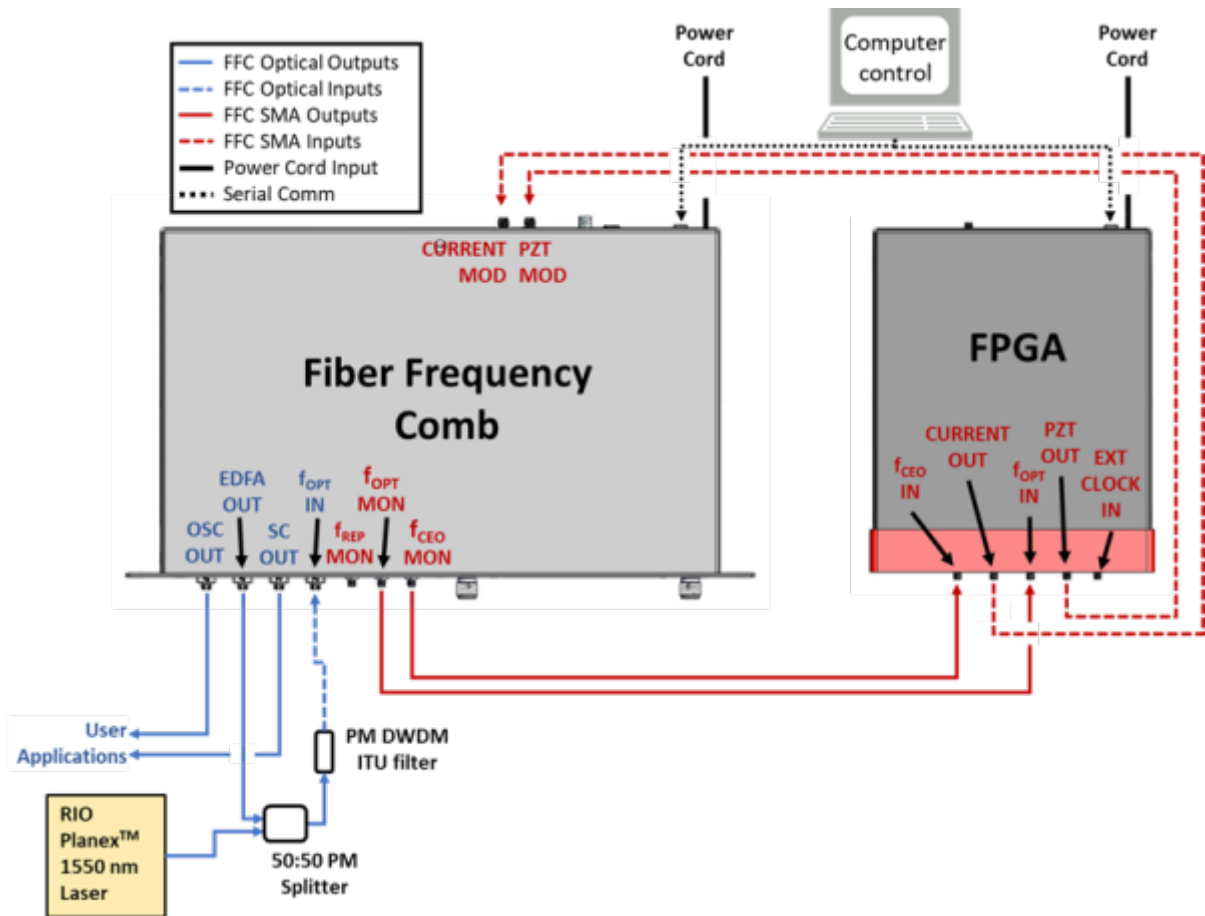

Fig. 2: FFC-100 electrical and optical connection diagram (Click for larger image)
1. Ensure all cables and fibers are connected according to the connection diagram figure 2.2)